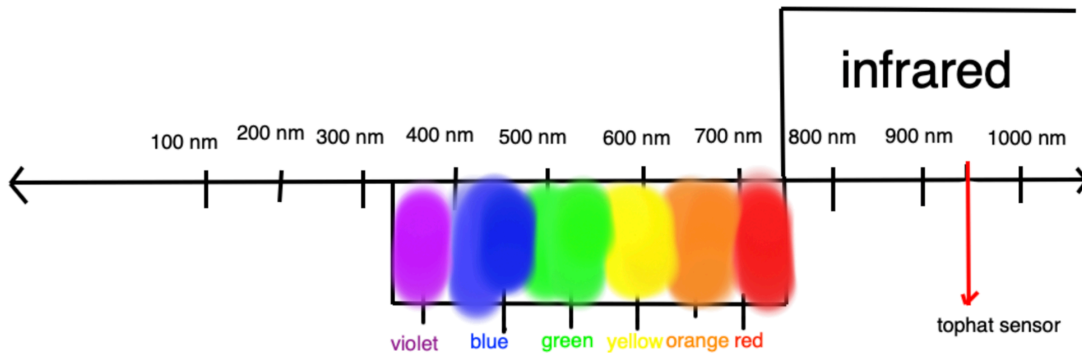

Figure 5 How Tophat works in electromagnetic spectrum
- (1) In terms of value difference between Black and White, the tophat sensor is not affected by environmental lighting nor surface temperature. We tested sensor reading on 1) warm vs cold surfaces; 2) artificially lighted room vs unlighted room. We found that the difference between the white value and black value are very similar in all cases.
(2) Most objects (with varying colors other than black) are equivalently absorptive to the infrared light of a Tophat, as depicted in Table 2. Note that the extra small value of “53” results from two tophat sensors shooting IR at each other. Because both sensors receive around the original amount of IR, the amount absorbed/lost is very little (due to the glass), hence the reading is very low. This confirms that the reading measures the amount of IR absorbed. Based on the specification^[3], the wavelength of the tophat sensor is 940 nm as shown by Figure 5.